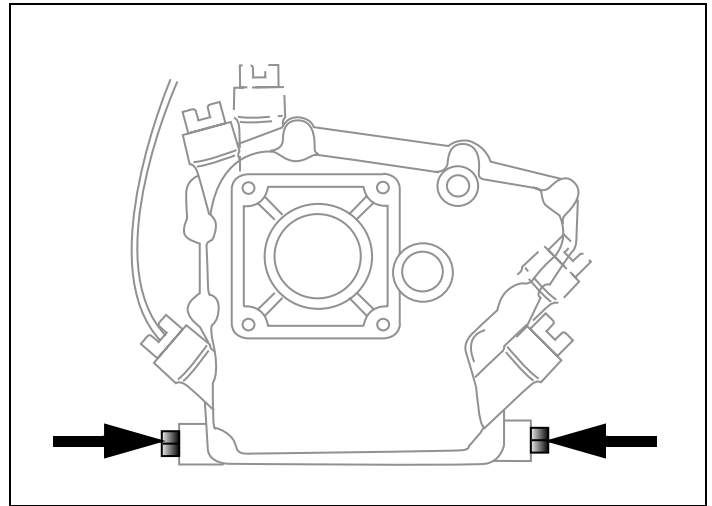

Figure 37. Possible Oil Drain Plug Location(s)
1. Be sure you find the correct drain plug location, if provided. See Figure 37.